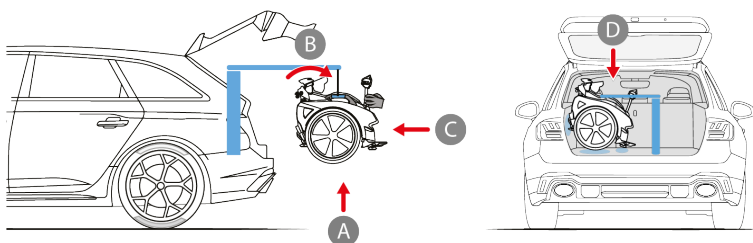

Figure 8.4 - Loading GENNY on board a vehicle - lifting system
3. Lift GENNY as described in Figure 8.4